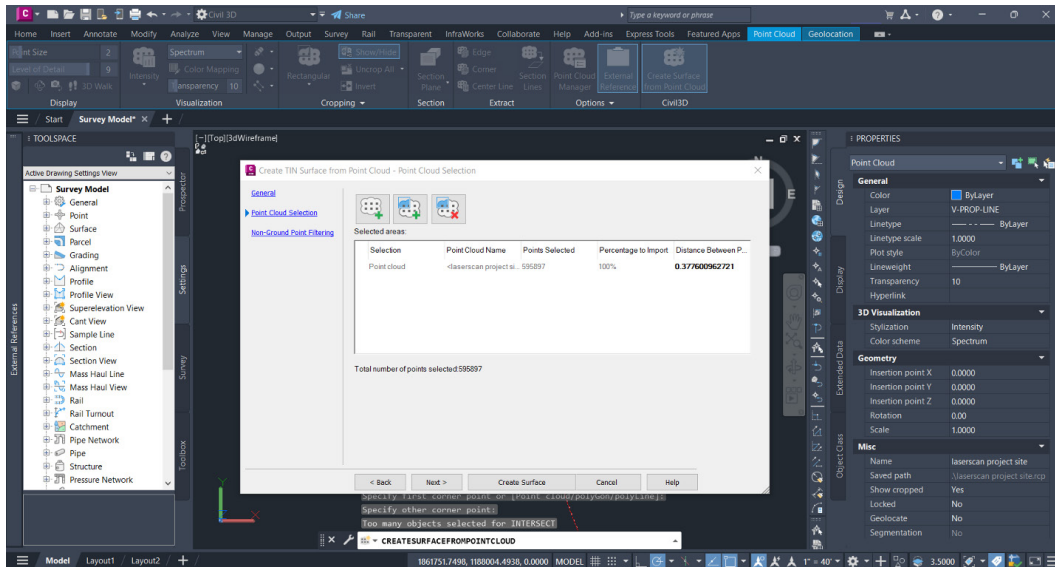

Figure 5.20 – Point Cloud Selection
11. The second tab we have is the **Point Cloud Selection** tab, which will help us narrow down exactly where and how we want to create our surface and decide which point to include as well as how many samples of points we want. You can see in *Figure 5.20* that if we left this with its defaults, we would create a surface that included almost 600,000 points. Most surfaces are typically made of hundreds of points, not hundreds of thousands of points. It is vital to understand this concept because if we create a surface from too many points, Civil 3D could struggle and crash, or at least make our production process lag tremendously throughout the project.